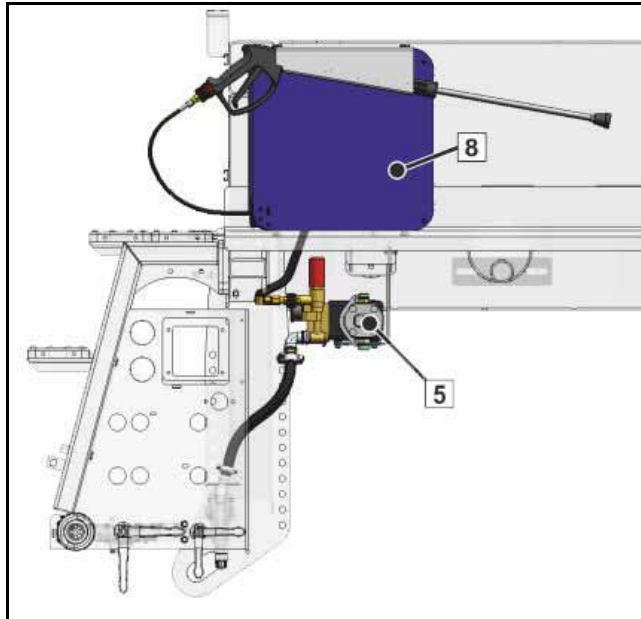

Fig. 432 Hose reel (8) fig. similar
The system is equipped with rolling equipment (8) (**Fig. 432**) for the high-pressure hose.